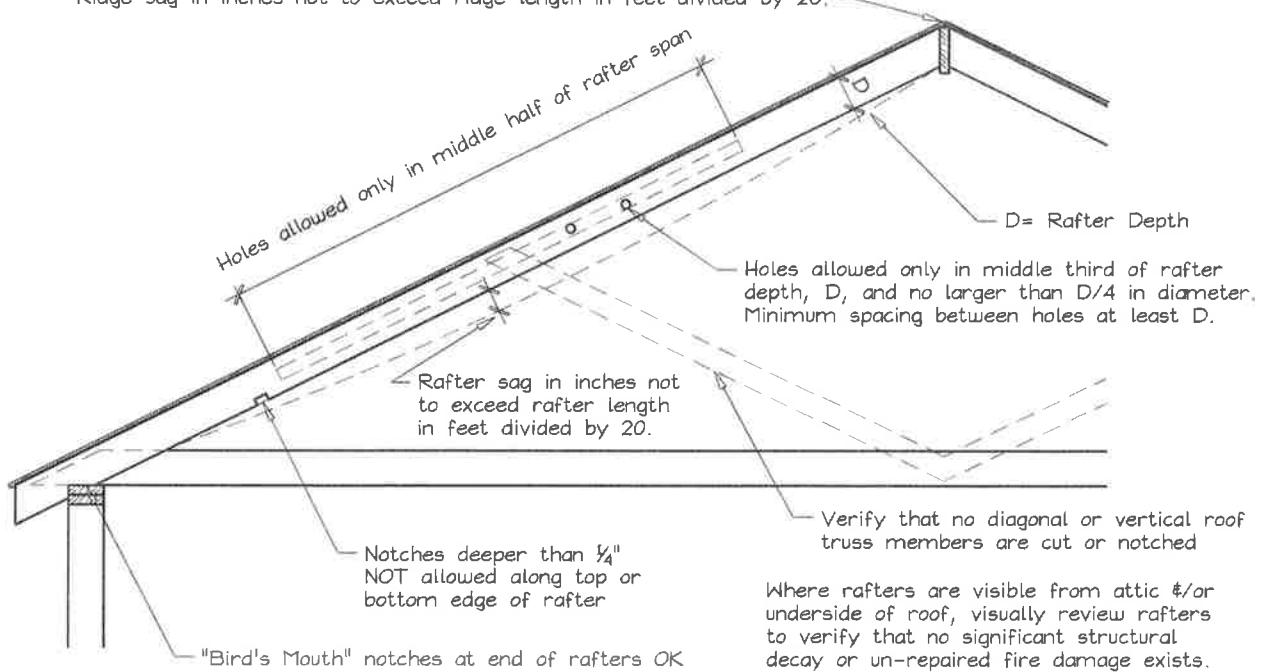

Figure 1. Roof Visual Structural Review (Contractor's Site Audit) of Existing Conditions.
2) Does the roof structure appear structurally sound, without signs of alterations or significant structural deterioration or sagging, as illustrated in Figure 1? Y N